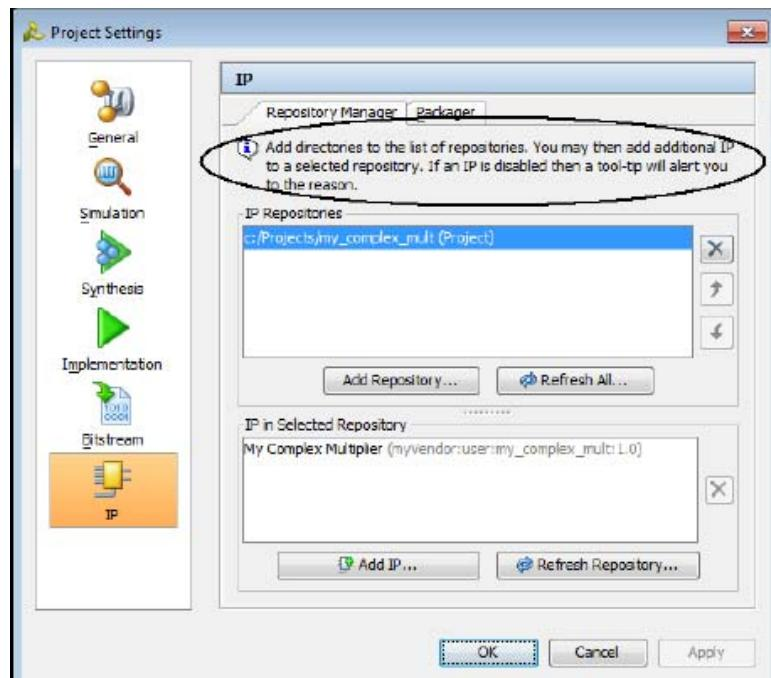

Figure 2-10: IP Project Settings-Repository Manager Tab
3. Click the **Repository Manager** tab (Figure 2-10), and do the following: